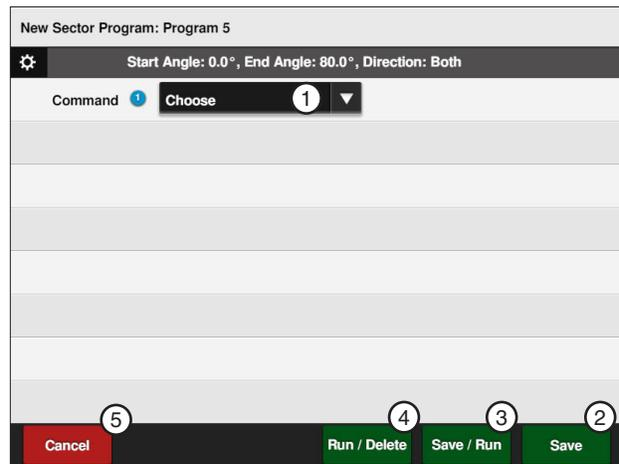

Figure 142-3 1. Choose Command 2. Save 3. Save / Run 4. Run / Delete 5. Cancel
12. To choose the commands for this sector follow these steps. Refer to Figure 142-3.